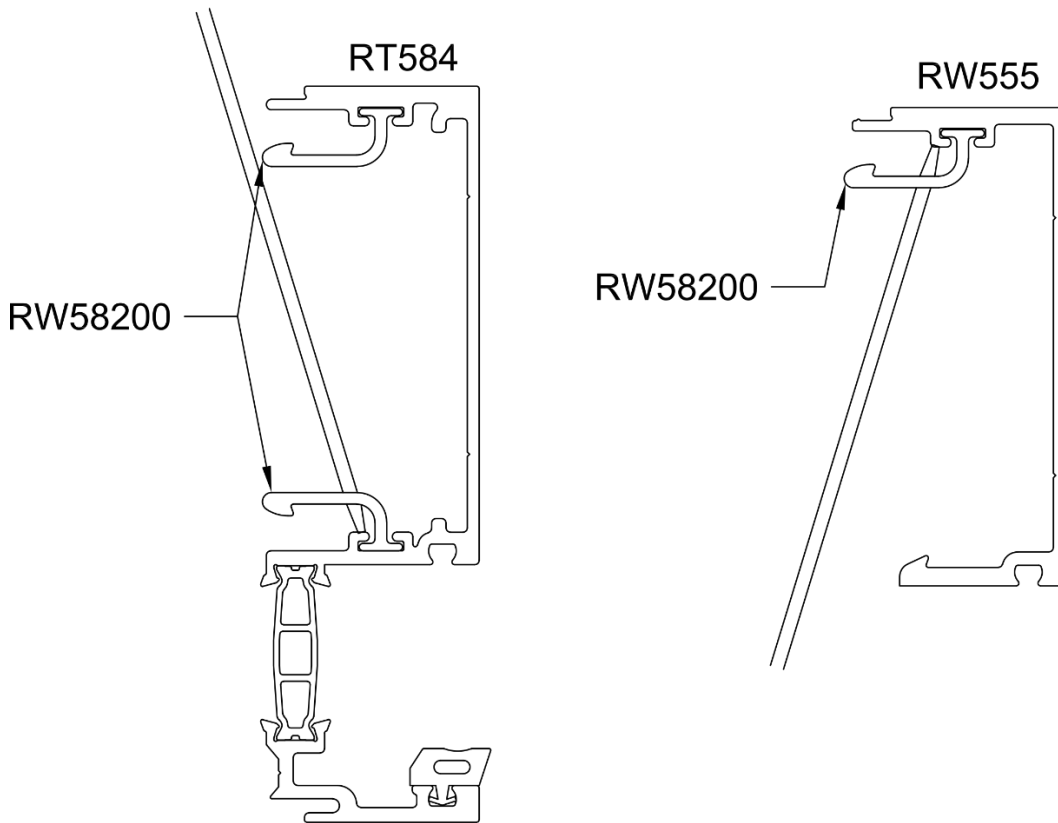

Figure 29: Anti-Buckling Clip Installation into Female-Half of Split Mullions
- 12.1.4 Insert **RW582-01** Anti-buckling Clips, locating as required by approved shop drawings or engineering review, into female half of split mullion and stake in place on both ends of each clip as shown in *Figure 29*. Verify clips are parallel with front and rear faces of mullion.